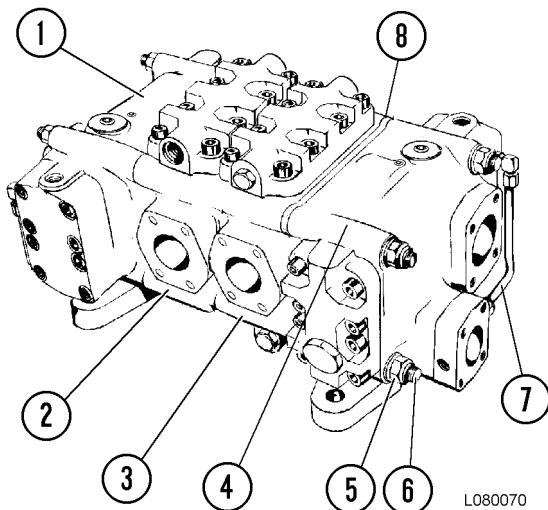
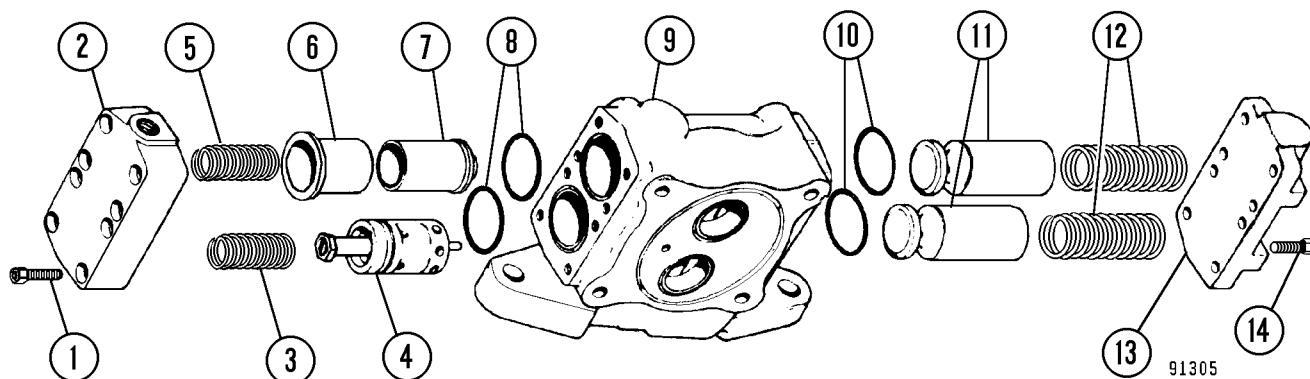

FIGURE 8-2. HOIST VALVE ASSEMBLY
FIGURE 8-5. INLET SECTION DISASSEMBLY
**NOTE:** The hoist valve must be positioned with separator plate (8, Figure 8-2) toward the front of the truck.
1. Remove four tie rod nuts and washers (5, Figure 8-2) from one end of the valve. Slide the tie rods from the valve and separate the sections.
2. Disconnect external tube (7, Figure 8-2) at the cover end. Remove capscrews (14, Figure 8-5), and cover (13). Remove springs (12), check valves (11), and O-rings (10).
3. Remove capscrews (1, Figure 8-5) and cover (2). Remove springs (3) and (5) and flow control/main relief valve (4). Remove sleeve (6), low pressure relief valve (7), and O-rings (8).
3. Install check valves (11, Figure 8-5) in their respective bores. Install springs (12).
4. Install O-rings (10) and cover (13). Install and tighten capscrews (14) to **81 N·m (60 ft lb)**.
5. Install low pressure relief valve (7) in sleeve (6), then install the assembly in housing (9). Install flow control/main relief valve (4). Install springs (3) and (5). Install cover (2). Install and tighten capscrews (1) to **81 N·m (60 ft lb)**. Connect the external tube and tighten the nuts to **34 N·m (25 ft lb)**.
**NOTE:** It is not necessary to remove inlet sections (1) or (4, Figure 8-2) to accomplish disassembly of spool section (2) or (3).